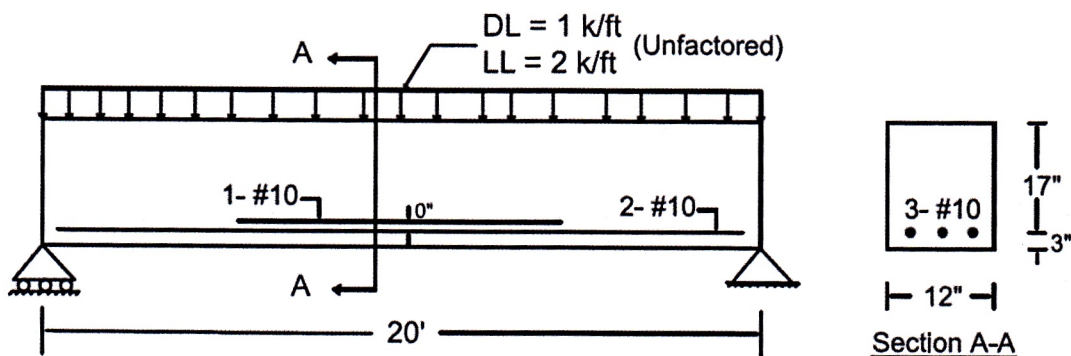

Fig. 5
7. a) The beam of Fig. 5 is subjected to a service DL of 1 k/ft and service LL of 2 k/ft. After designing the beam for maximum flexure, 3-#10 uncoated bar has been selected. Given, normal weight concrete $f'_c = 5$ ksi, $f_y = 60$ ksi, $f_s = 24$ ksi, $E_s = 29000$ ksi, $E_c = 3222.22$ ksi.
- (i) Calculate the theoretical cut-off point of the centre rebar. (3)
- (ii) Also, calculate the actual cut-off point of the centre rebar considering the fact that, adequate development length is to be provided. Consider simplified equation for development length calculation. (5)